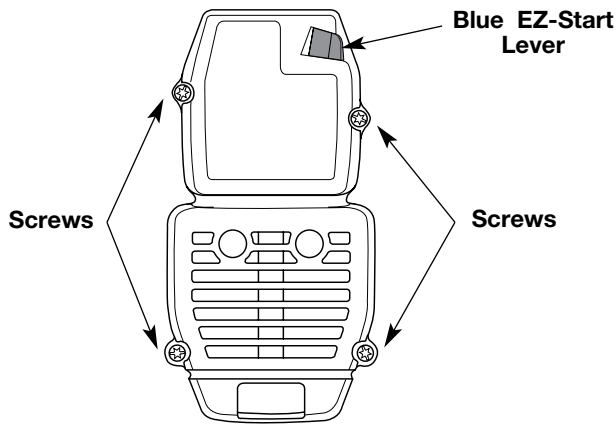

Fig. 26
1. Remove the four (4) screws securing the air filter/muffler cover (Fig. 26). Use a flat blade or T20 Torx bit screwdriver.
2. Insert the four (4) screws into the holes in the air filter/muffler cover (Fig. 26) and tighten.